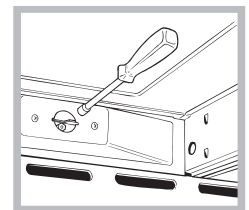

Fig. 4
4. Unscrew the nozzle (see figure 4) using 7 mm socket spanner and replace it with a new nozzle that is suited to the new type of gas (see Burner and nozzle specifications table).